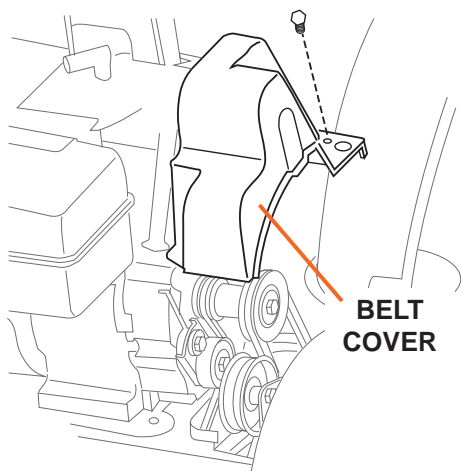

Figure 17
1. Remove the belt cover on the front of the engine by removing the two self-tapping screws (see Figure 17). Drain the gasoline from the snow blower, or place a container to catch leakage from the gas cap.